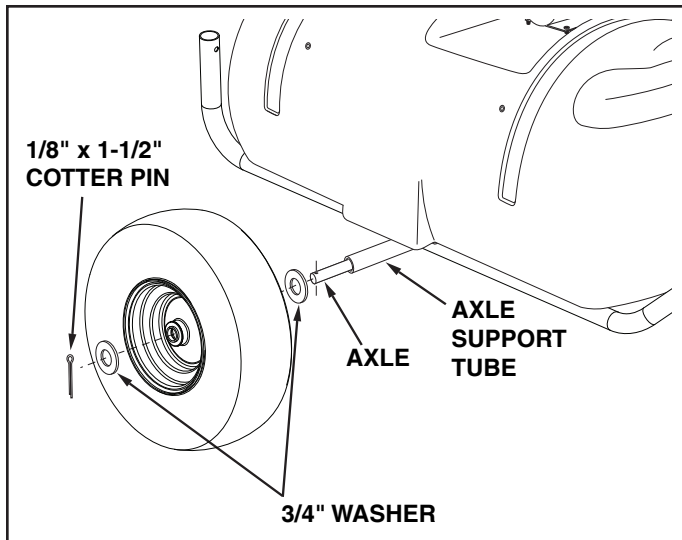

FIGURE 2
3. Slide the axle through the axle support tube. See figure 2.
4. Assemble a 3/4" washer, a wheel (valve stem facing out) and another 3/4" washer onto the axle. Assemble a cotter pin through the end of the axle. Repeat on other end. See figure 2.